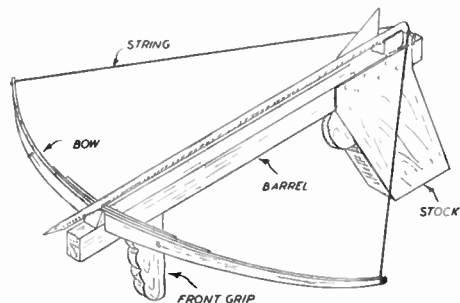

Fig. 1
**W**ITH a useful range of some 50 yds., this cross-bow is a fascinating, one-evening project. Construction has been simplified to a degree, and no special materials are required. A general idea of the finished article is given in Fig. 1.